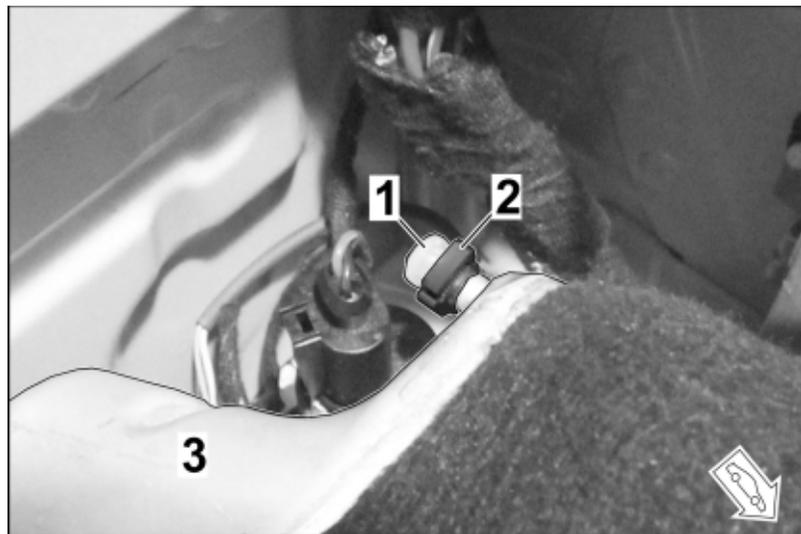

Figure 78
10.3.2 Close off tank ventilation on the water tank (standard) using white dummy plugs from a new auxiliary tank and supplied pipe clamp (⇒ Figure 78).